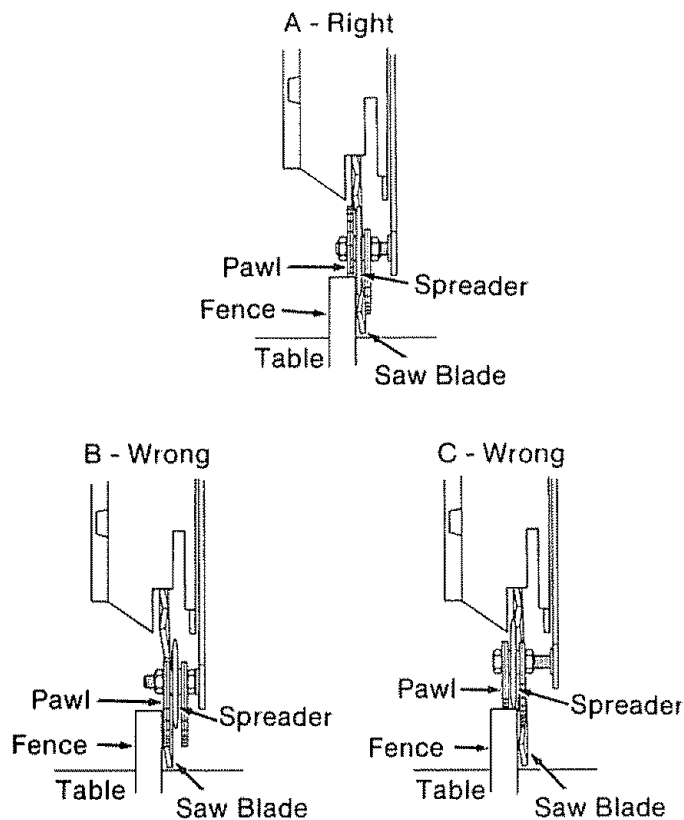

Fig. 93 - A,B,C
12. If the *spreader* and *blade* both rest against the *fence*, no adjustment is needed. (Figure 93-A) Go to step 17, or
If the *spreader* is in front of the *fence* but not touching it (Figure 93-B), go to step 13, or
If the *spreader* hits the top of the *fence* (Figure 93-C), go to step 13.